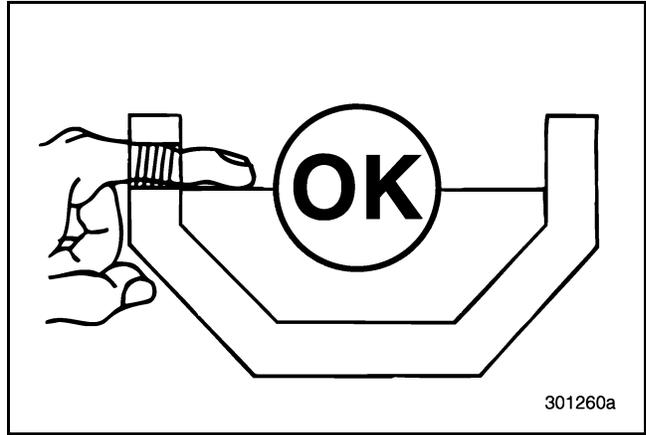
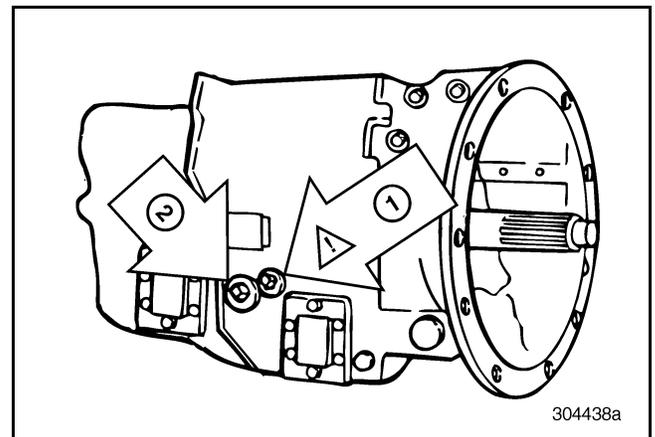

Figure 56 — Correct Oil Level
Figure 59 — Oil Filler and Check Plug
- Remove the oil filler plug (2) (Figure 59), then fill the transmission using specified oil until the oil is level with the bottom of the filler plug hole (also see Figure 56). Do NOT overfill.